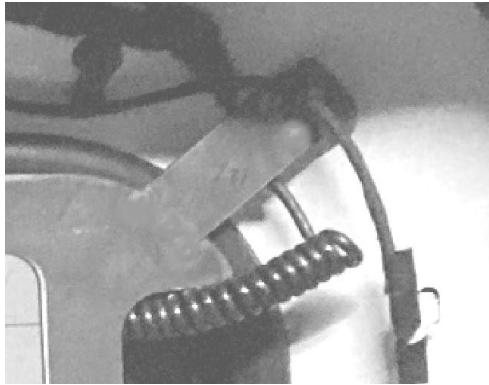

Fig. 5
- C. Center window guard with hatch opening. Before fastening, ensure defrost wiring is routed behind frame. (Fig. 5)